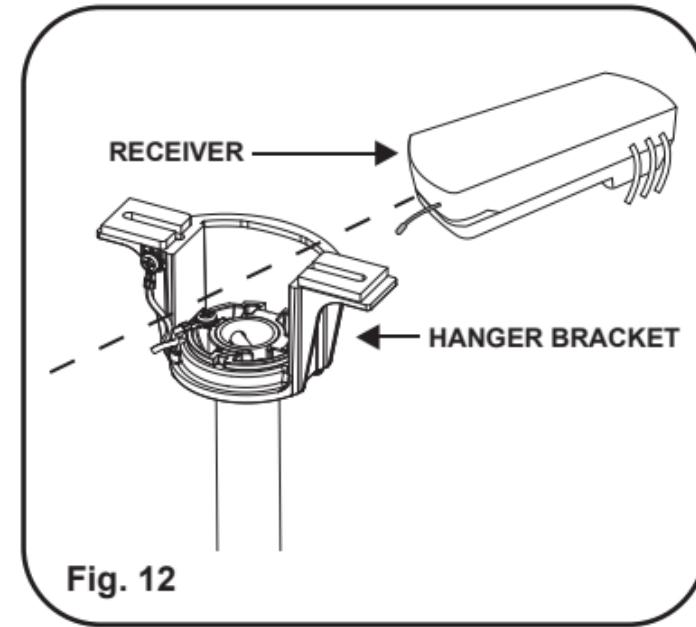

Fig. 12
**Step 1.** Insert Receiver into Hanger Bracket with the flat side of the Receiver facing the ceiling. (Fig.12)